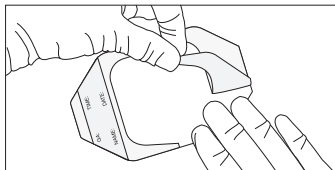

Fig. 6
- Place without tension over insertion site. Slowly remove frame while smoothing down dressing edges (refer to Fig. 6).